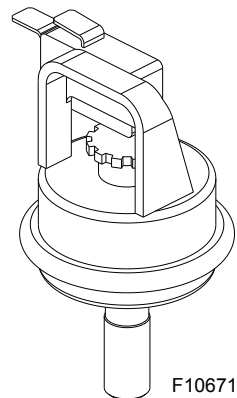

Figure 62. Water Pressure Switch
2. Remove the ProTek Shield Assy (if attached). Remove the heat exchanger inspection panel on the side opposite water piping to gain access to the drain plug on the return header. Open drain plug on return header. See **Figure 62** and **Figure 63**.